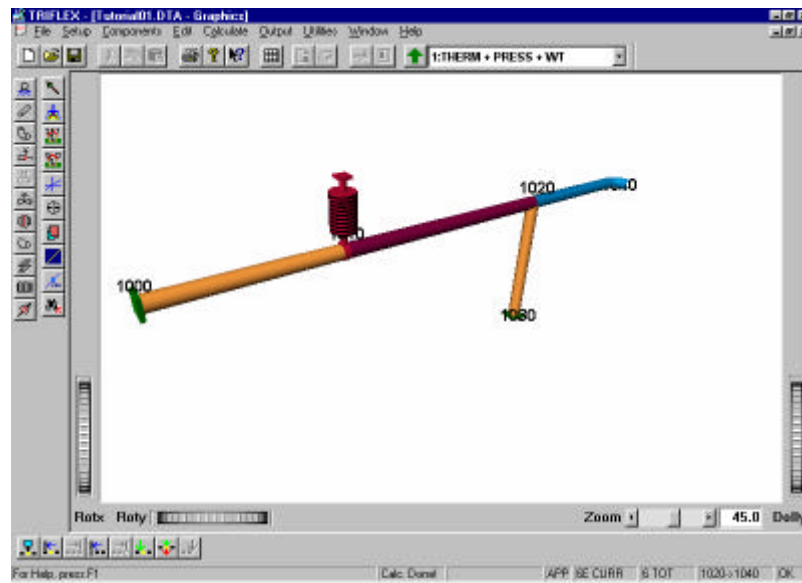

Figure 2.3.3-16 Node 1040, Elbow Data Graphic Display
- 5 Click **OK** to save the elbow data and display the Graphic View shown in Figure 2.3.3-16.